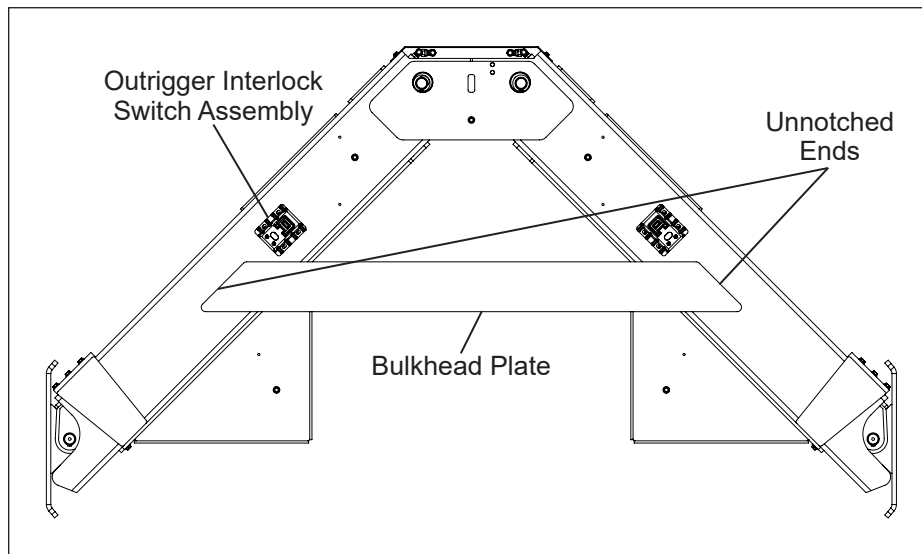
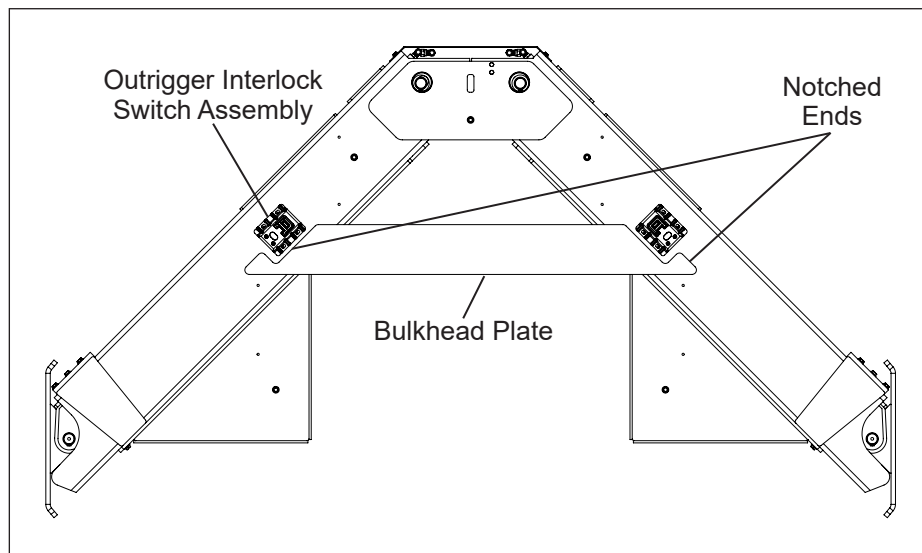

Figure 1 — Outrigger with Unnotched Bulkhead Plate
Figure 2 — Outrigger with Notched Bulkhead Plate
2. Find the bulkhead plate welded to the front end of the subbase and the front surface of the A-frame outriggers located directly behind the chassis cab (refer to Figures 1 and 2). Confirm whether the ends of the bulkhead are unnotched, as shown in Figure 1, or notched, as shown in Figure 2.